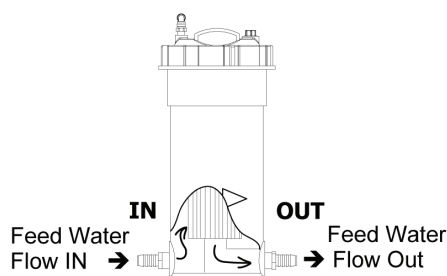

Figure 5b: Follow the labeling - NOT the molded arrows and lettering
The optional Commercial Prefilter replaces the 10 in. (25.4 cm) Dual Prefilters. The Commercial Prefilter is mounted to a flat horizontal surface using the supplied screws. Maintain an orientation and accessibility that allows the operator access to remove the filter element for maintenance. Allow minimum 12 in. (30.5 cm) above the top of the housing for filter element removal. Mount the Commercial Prefilter in close proximity to the outlet of the Booster Pump and the System frame. The commercial prefilter is plumbed as per the raised arrow and Inlet & Outlet letters molded into the filter housing. The correct water flow enters the outer surface of the filter element and migrates to the center core. *Refer to PAGE 5-4, fig. 5b*
14. The Oil/Water Separator is mounted to a flat horizontal surface using supplied screws. Maintain an orientation and accessibility that allows the operator access to remove the filter element for maintenance. Allow minimum 12 in. (30.5 cm) above the top of the housing for filter element removal. Mount the Oil/Water Separator in close proximity to the outlet of the Booster Pump and the System frame. Inlet and Outlet labels (stickers) indicate the correct plumbing for the Oil/Water Separator. **Follow the stickers, not the molded arrow and lettering.** *Refer to PAGE 5-3., fig. 5b*
WARNING NOTE (Refer to pg. 5-3, fig. 5b.): The Oil/Water Separator utilizes the same filter housing as the Commercial Prefilter.